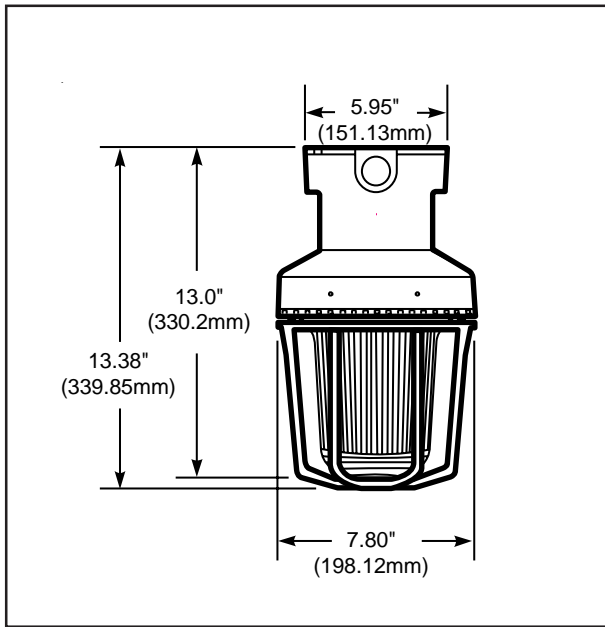

Figure 2. Detail of Ceiling Mounting
- b. **Ceiling Mount Models** (Figures 2 and 4): Unscrew the globe assembly from the ceiling mount box. Mount the ceiling box using appropriate hardware (not supplied) suitable for the mounting surface. Proceed to step 2.